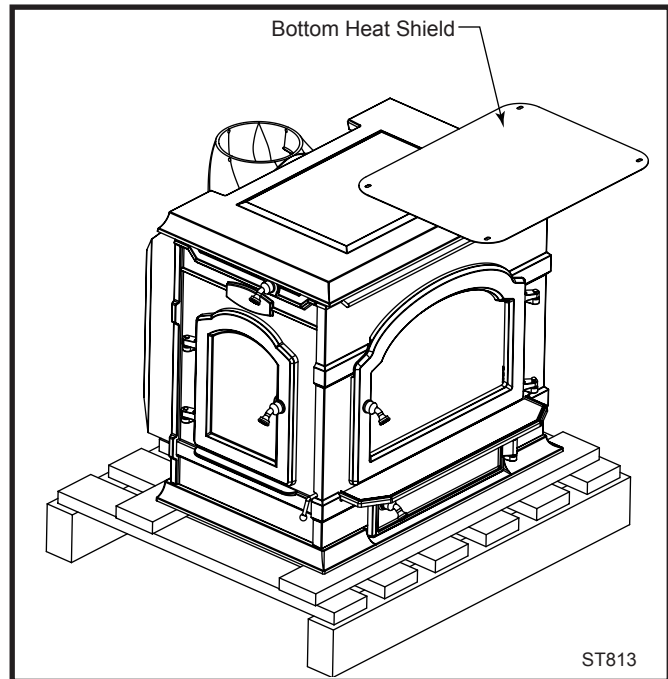

Fig. 19 Remove bands holding stove to pallet and remove heat shield from top of stove.
1. Remove the band that holds the stove to the pallet and remove the bottom heat shield that was positioned on top of the stove. (Fig. 19)